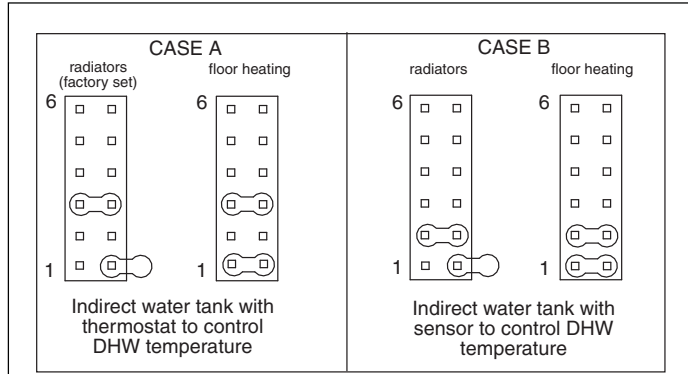

Fig. 61
9. GAS VALVE MAXIMUM PRESSURE SETTING (Fig. 61)
JUMPER IN POSITION 1 (Fig. 61):
The boiler is supplied standard with the jumper in position 3 (standard heating + indirect water tank with thermostat); if you wish to use an external water tank with sensor, move this jumper from position 3 to position 2 (case B, Fig 61); if you wish to have low temperature for floor space heating move the not inserted jumper in position 1 (Fig 61).